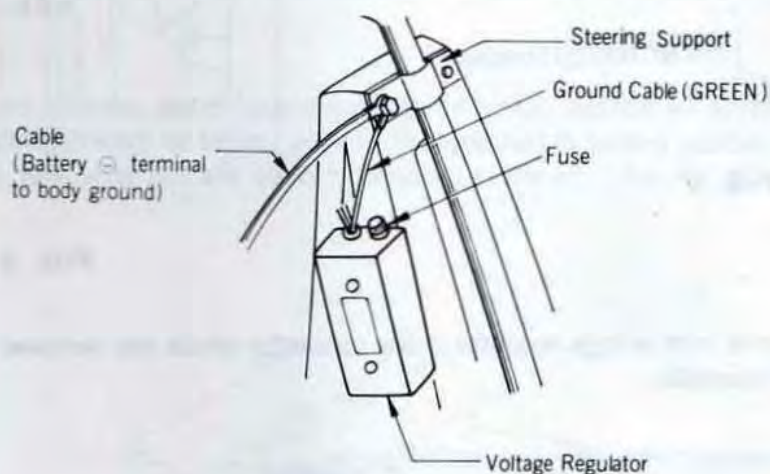

FIG. 5
10. Attach green wire from the voltage regulator and 14.9" ground cable (battery negative $\ominus$ to body ground) to the bolt on top of the steering post support. See Fig. 5.